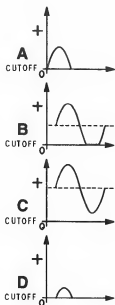

Figure 4-101
20. Which waveform in Figure 4-101 represents the output current for a class A amplifier?
21. Which waveform in Figure 4-101 represents the output current for a class B amplifier?